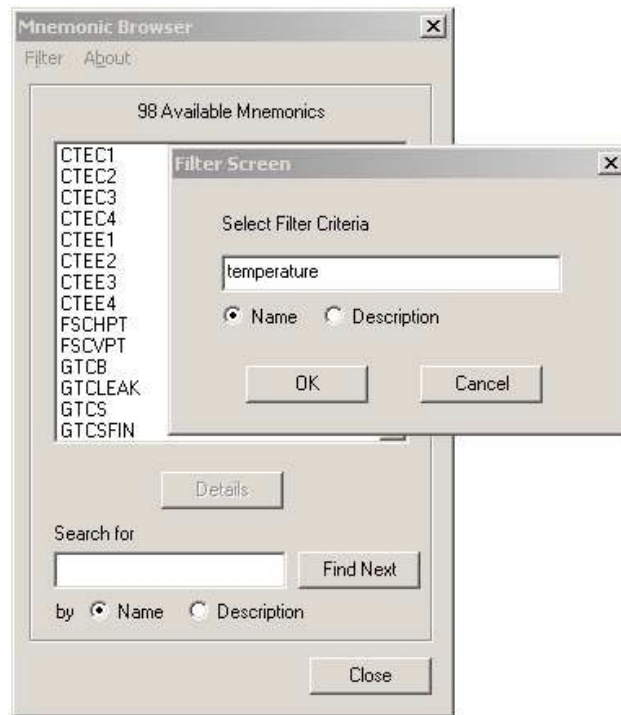

Figure 104: Mnemonic Browser Filter Screen
- Click "Filter" from the Mnemonic Browser list screen menu bar (*Figure 104*).